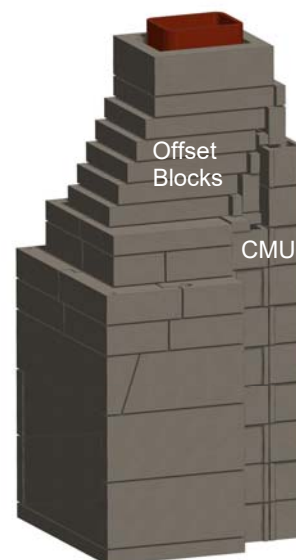

Figure 21. Offset Blocks and CMU Support
C. The chimney is completed by stacking as many flue sections as necessary to reach chimney height. Chimney plumbing can either be straight through the ceiling and through the roof, or if the fireplace is installed on an outside wall, the chimney can be external to the house. When needed offset blocks can be used for the chimney and should be engineered to structurally support the offset with CMU or custom fabricated steel post and or angle iron capable of supporting the weight and height of the chimney. Never exceed more than a 30 degree angle when offsetting a chimney. See Figure 21.